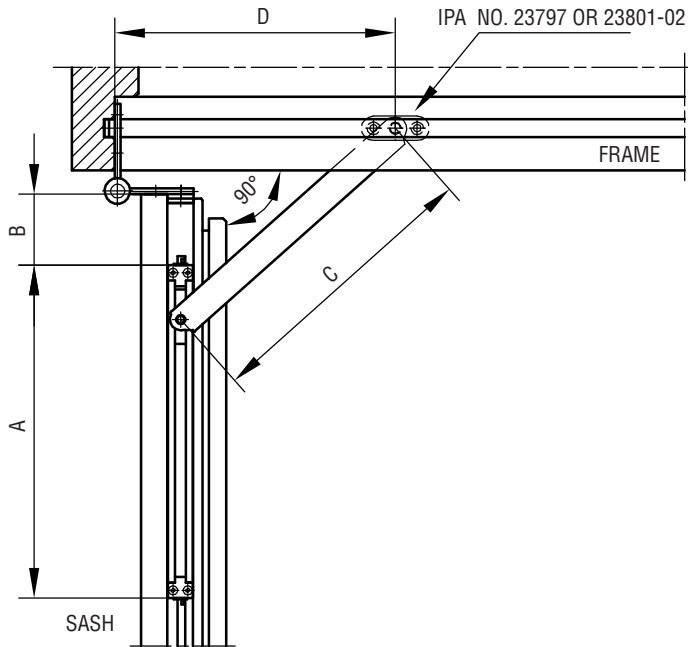

FIG. 1
2. 21820-21: THE PLASTIC FRAME FIXTURE IS MOUNTED IN THE TOP OF THE FRAME. USE 2 PCS. SCREW NO. 4. - SEE FIG. 1.